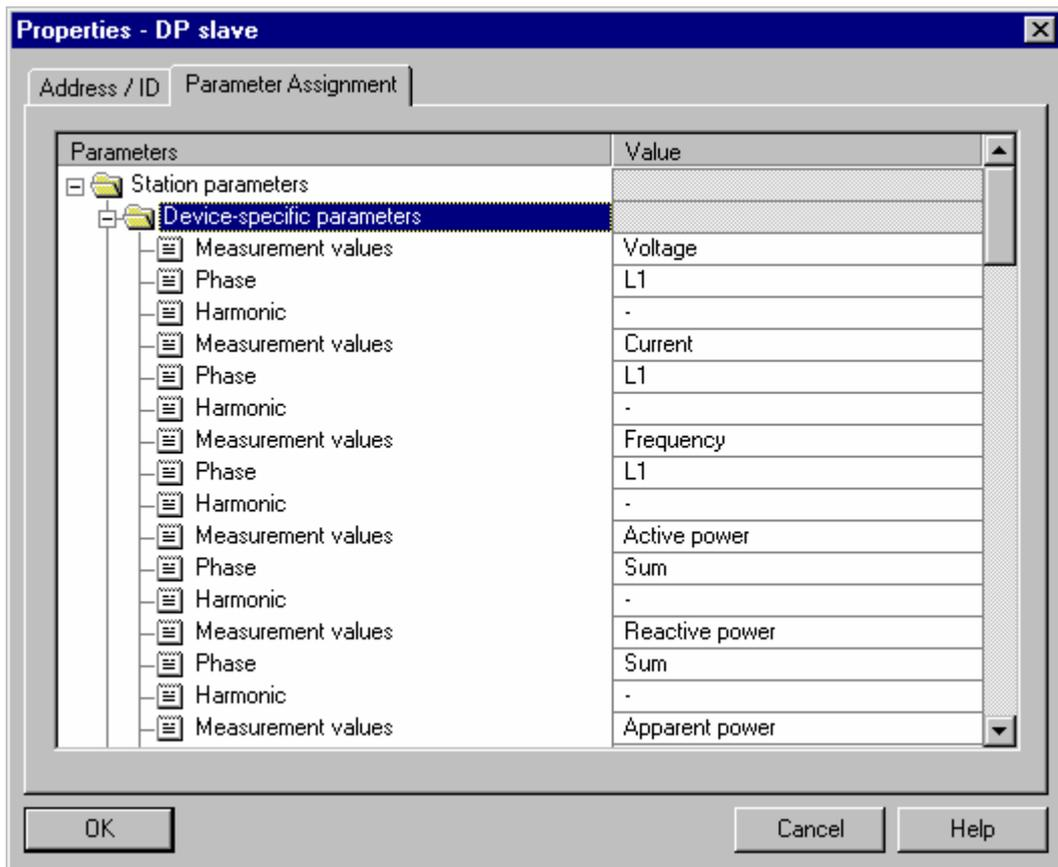

Figure 2-4 Selection of measured values in STEP 7 HW Config
**Notice:** The „Universal module“ shown in Figure 2-4 is not described by the GSD file. It is a module specific to SIMATIC S7 which should not be used.
**Example:** In STEP 7 HW Config you set these parameters in the properties dialog of the slave (here: SIMEAS P). Figure 2-4 gives an example for the basic type 2. There are three lines for each variable: